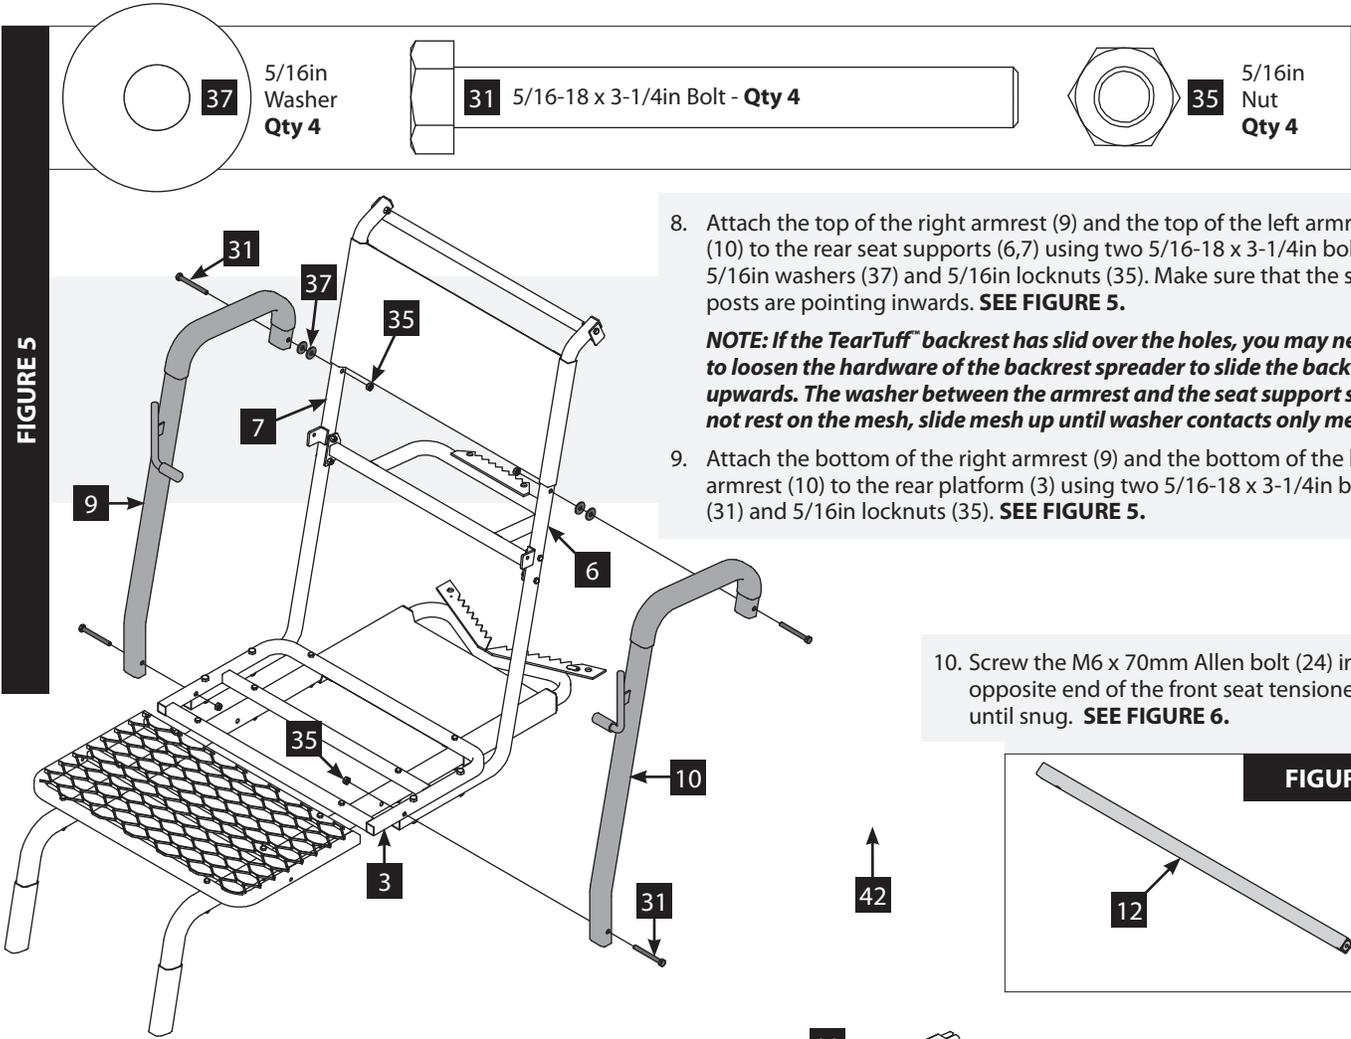

FIGURE 5
- Attach the top of the right armrest (9) and the top of the left armrest (10) to the rear seat supports (6,7) using two 5/16-18 x 3-1/4in bolts (31), 5/16in washers (37) and 5/16in locknuts (35). Make sure that the seat posts are pointing inwards. **SEE FIGURE 5.**
- Attach the bottom of the right armrest (9) and the bottom of the left armrest (10) to the rear platform (3) using two 5/16-18 x 3-1/4in bolts (31) and 5/16in locknuts (35). **SEE FIGURE 5.**